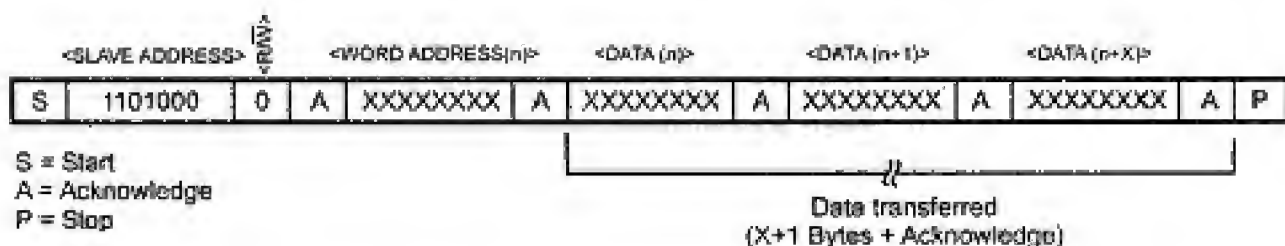

Fig. 15.15 Data write - slave receiver mode
1. **Slave receiver mode (DS1307 write mode)** : Serial data and clock are received through SDA and SCL. After each byte is received, an acknowledge bit is transmitted. START and STOP conditions are recognized as the beginning and end of a serial transfer. Address recognition is performed by hardware after reception of the slave address and direction bit as shown in Fig. 15.15. The address byte is the first byte received after the start condition is generated by the master. The address byte contains the 7-bit DS1307 address, which is 1101000, followed by the direction bit (R/active-low W) which for a write is a 0. After receiving and decoding the address byte, the DS1307 outputs an acknowledge on the SDA line. After the DS1307 acknowledges the slave address + write bit, the master transmits a register address to the DS1307. This will set the register pointer on the DS1307. The master will then begin transmitting each byte of data with the DS1307 acknowledging each byte received. The master will generate a stop condition to terminate the data write.